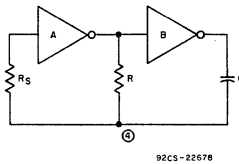
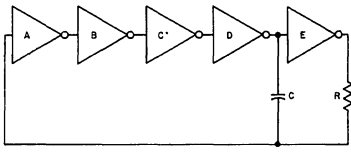

Fig. 4 — RC-oscillator with the addition of R_S .
Fig. 8 - CD4047A oscillator section
The negative features of the input protection circuit can be partially compensated for by the addition of a resistor, R_S , in series with the input protection circuit, as shown in Fig. 4. Although the input inverter A is still clamped at one diode drop above V_{DD} or one diode drop below V_{SS} , the waveform at point (4) is allowed to swing well above V_{DD} and below V_{SS} . The larger swing reduces the dependency of transfer-voltage variations upon stability; the variable characteristics of the input protection circuit and their effect upon stability are greatly reduced. An analysis of this circuit is presented in
The RCA-CD4047A is an integrated RC oscillator that eliminates most of the disadvantages of the discrete circuits previously discussed. The primary reason for this improved performance is the special input-protection circuit which allows the capacitor charging waveform to swing above V_{DD} and below V_{SS} without the need for an external resistor. This circuit, shown in Fig. 8, has the same time period and stability as the circuit in Fig. 4 for the case where the value of R_S is infinite. However, a resistor is eliminated, as well as the disadvantages of a time constant caused by the resistor.
An additional advantage of the CD4047A is a reduction in power dissipation as compared to the discrete multivibrators discussed previously. Inverter A in Fig. 8 is designed with high-impedance components that limit power dissipation during the time that the inverter operates in the middle of its transfer region. Four additional inverters are used to gradually shift from a very-high-impedance inverter at the input to a very-low-impedance driver in series with the external timing resistor. Calculations for power dissipation and a comparison of P_{diss} for the CD4047A and a discrete oscillator are presented in Appendix D; the result is